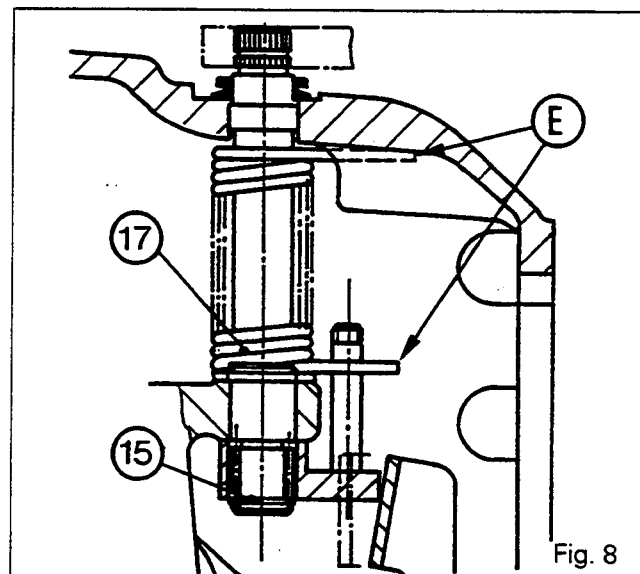

Fig. 8
40. Place the retainer ring (21) (if removed) on the shaft (20).
41. Fit the shaft (20) in the closing plate (24) with the washer (22) and the spring (17).
43. Check that the discs (30) and the mechanism (31) are correctly positioned.
44. Fit and tighten the screws (25) to a torque of 90 - 120 Nm.
45. Fit the cam (14) with its finger (16).
46. Fit the circlip (15). Replace the spring (17), positioning its ends E as indicated in Fig. 8.